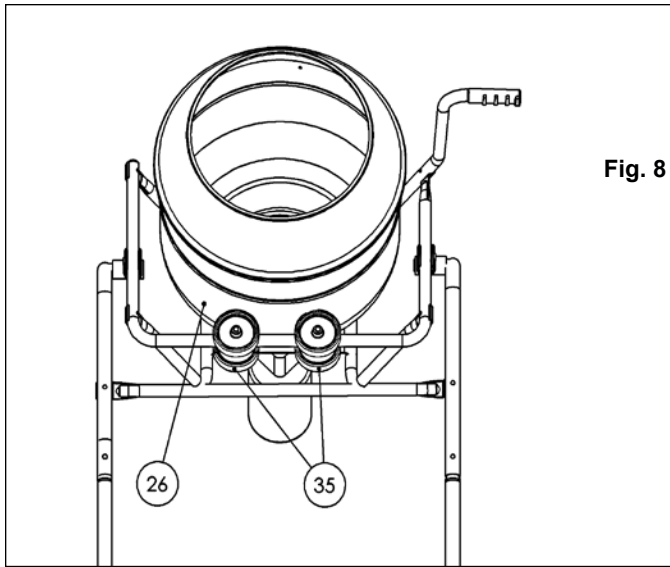

Fig. 8
- 3c) Refer to Fig. 1, 7, and 8. Standing in front of the mixer (Fig.8), check the drum assembly (26) position relative to the drum support wheels (35). Center the drum support wheels in relation to the drum by pressing against the motor plate assembly (Fig.7). Once centered, tighten baseplate fasteners (Fig. 1), then tighten remaining fasteners. A gap may occur between the drum assembly (26) and the drum support wheels (35). This is normal when the mixer is unloaded.